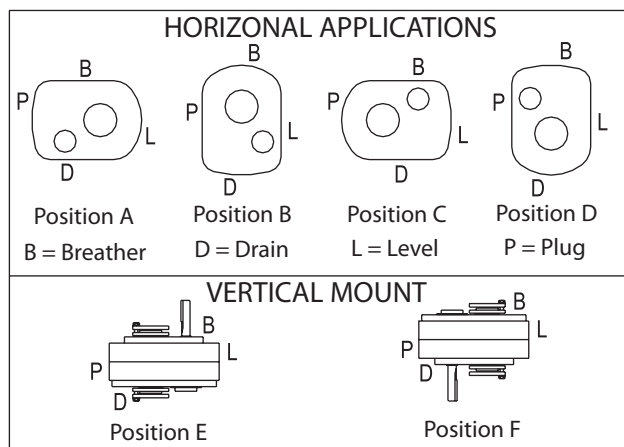

Figure 1 - Mounting Positions
2. Determine the running position of the reducer (see Fig. 1). Note that the reducer is supplied with either 6 plugs; 4 around the sides for horizontal installations and 1 on each face for vertical installations. These plugs must be arranged relative to the running positions as follows:
The running position of the reducer in a horizontal application is not limited to the four positions shown in Figure 1. However, if running position is over 20° either way from sketches, the oil level plug cannot be safely used to check the oil level, unless during the checking the torque arm is disconnected and the reducer is swung to within 20° in positions "B" and "D" or 5° in positions "A" and "C" of the positions shown in Figure 1. Because of the many possible positions of the reducer, it may be necessary or desirable to make special adaptations using the lubrication fitting holes furnished along with other standard pipe fittings, stand pipes and oil level gages as required.
① Refer to Figure 1 for mounting positions.
② U.S. Measure: 1 quart = 32 fluid ounces = .94646 liters.
Note: If reducer position is to vary from those shown in Figure 1 either more or less oil may be required. Consult Dodge Product Support.